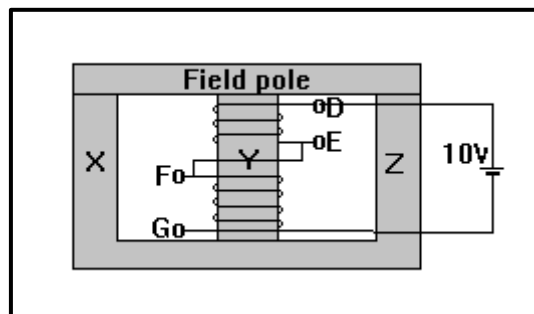

Figure 6.2
2. Make the connection as shown in Figure 6.2:
3. Reverse the connection of the coils in figure 6.2 and repeat steps 2: (a – e). **What do you find?**